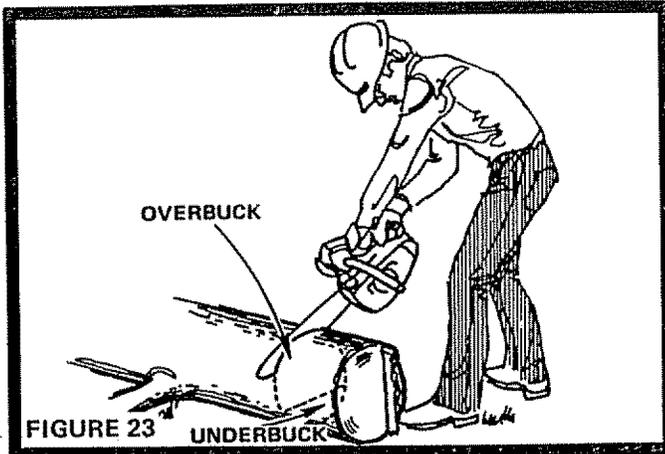

FIGURE 23
2. Logs that are only supported on one end can be cut from below, 1/3 log diameter ('underbuck') then finished from the top (Fig. 23).